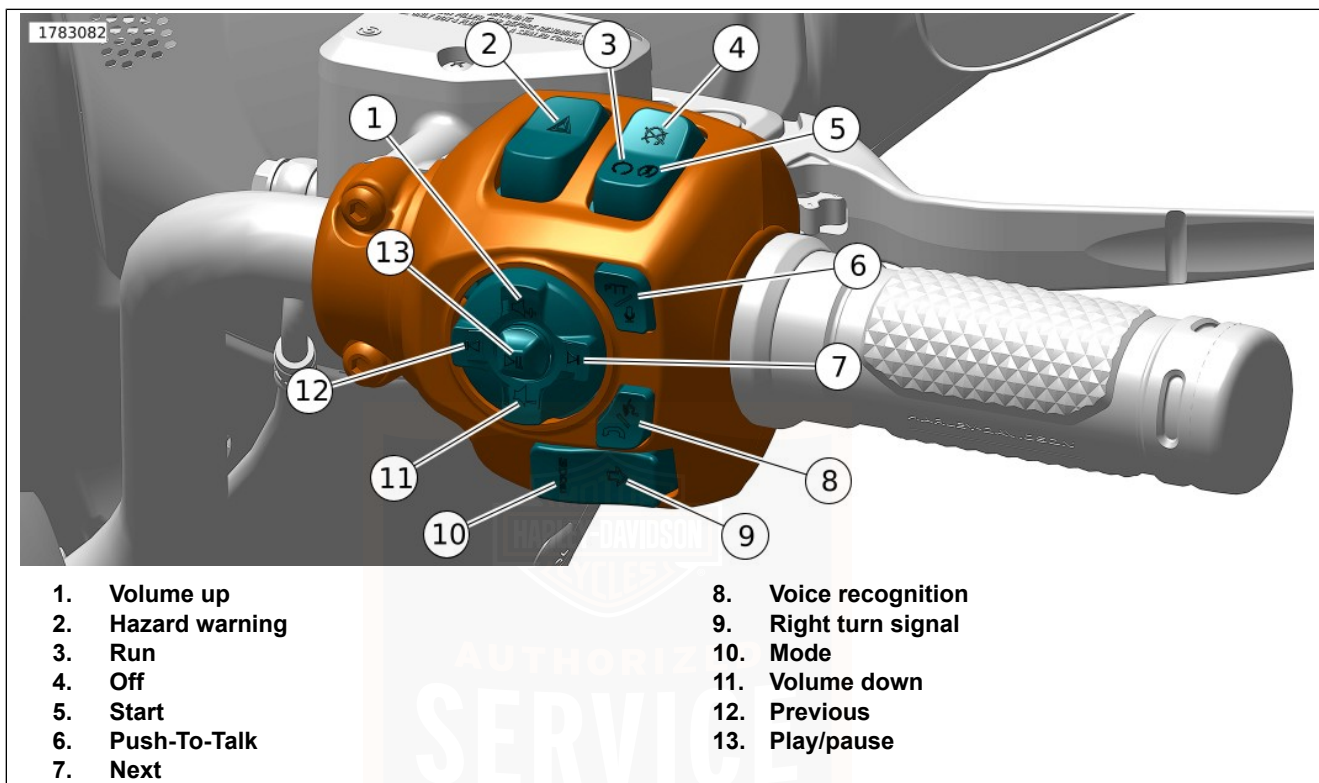

Figure 30. Right Hand Control Module (RHCM)
See Figure 30. The hazard warning switch (2) is used to leave a stranded motorcycle in the 4-way flashing mode. With the flashers, the motorcycle can be left with the ignition off until assistance is found. Refer to Table 26.
1. With the OFF/RUN/START switch in the RUN (3) position, press the hazard warning switch to activate the 4-way flashers.
See Figure 30. Press the engine OFF/RUN/START switch to OFF (4) to shut off the engine. Refer to Table 26.
See Figure 30. Push the engine OFF/RUN/START switch to RUN (3) to enable engine start and run. The engine OFF/RUN/START switch must be in the RUN position to start or operate the engine. Refer to Table 26.
See Figure 30. Press the right turn signal switch (9) to activate the right turn signal. Refer to Table 26.
See Figure 30. Press the volume up (1) button to increase volume. Refer to Table 26.
See Figure 30. Press the next button (7) to select the next media file. Refer to Table 26.
See Figure 30. Press the volume down (11) button to decrease volume. Refer to Table 26.
See Figure 30. Press the previous button (12) to select the previous media file. Refer to Table 26.
See Figure 30. Press the play/pause button (13) to play or pause the current media file. Refer to Table 26.
See Figure 30. The Push-To-Talk (PTT) switch (6) is used to operate the rider/passenger intercom on equipped vehicles. Refer to Table 26.
1. See Figure 30. Switch the OFF/RUN/START switch to RUN (3). Shift the transmission to neutral. The neutral (green) indicator illuminates. See OPERATION > STARTING THE ENGINE (Page 112).
2. Press the OFF/RUN/START switch to START (5) to operate the starter motor. Refer to Table 26.
See Figure 30. The voice recognition switch (8) activates the voice recognition features on a connected mobile device. Refer to Table 26.
See Figure 30. Press the mode button (10) to change the ride mode. See OPERATION > RIDE MODES (Page 102). Refer to Table 26.
See Figure 30. Use the Right Hand Control Module (RHCM) buttons to navigate volume up (1), volume down (11), next (7), previous (12), play/pause (13) on the RHCM to adjust audio media settings. See OWNER MANUAL > INFOTAINMENT CONTROL UNIT (IFCU) OPERATION (Page 133).